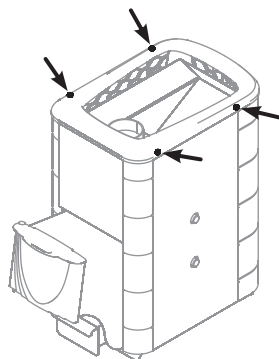

Figure 10. Disassembling of "Tunguska" bath stove convector frame
1. Remove the convector frame by unscrewing 4 self-drilling screws (fig. 10);